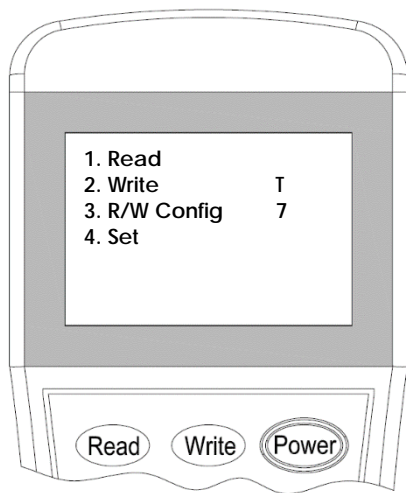

Figure 13
2. Switch-on the programmer, then press button **“3”** to enter to **Configuration mode** (Figure 13).